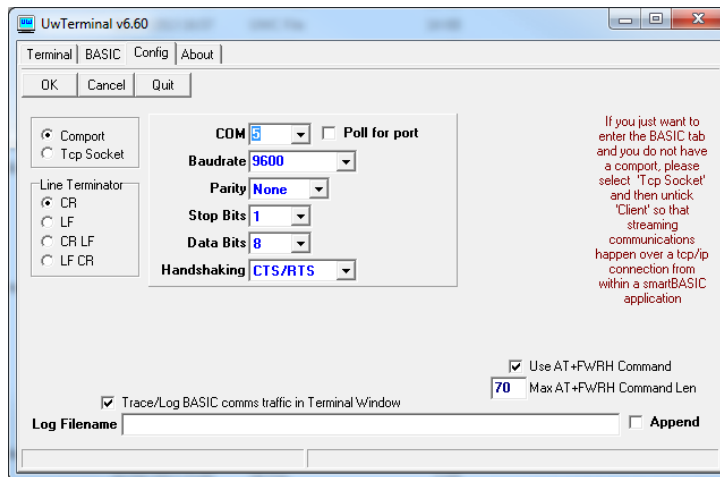

Figure 10: COMMS settings
2. Configure the COM port (the port number in device manager) with the following settings, as shown in Figure 10: